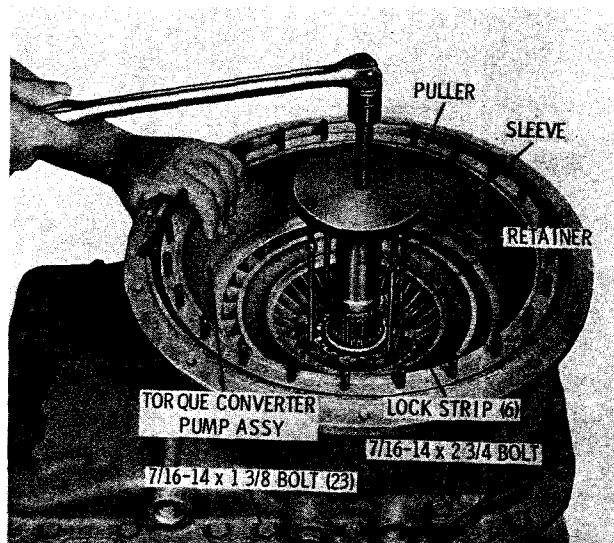

Fig. 5-13. Loosening torque converter pump bearing
(4) Straighten the tabs of the lockstrips at four places equidistant around the pump hub and remove four of the 12 bolts (fig. 5-13). Install an improvised puller (fig. 4-1), making sure the puller sleeve rests on the converter ground sleeve and extends above the end of the first-turbine drive gear shaft. Tighten the puller screw.
(5) When the converter pump bearing has been drawn from its seat on the ground sleeve, remove the puller.
(1) Remove the 24 bolts, lockwashers, and plain washers that attach the converter housing to the transmission main housing (fig. 5-13).